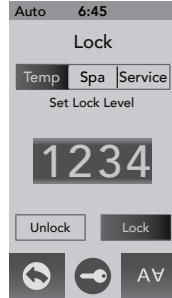

Figure 12.10b
From the Settings Menu, tap **Lock...** to enter the programming options, Figure 12.10b. You can prevent users from changing certain features of the spa. When a lock feature is active, the lock icon  will appear on the Main Menu.
A. Temp Lock (Figure 12.10b):
B. Spa Lock (Figure 12.10b):
C. Service Lock (Figure 12.10b):